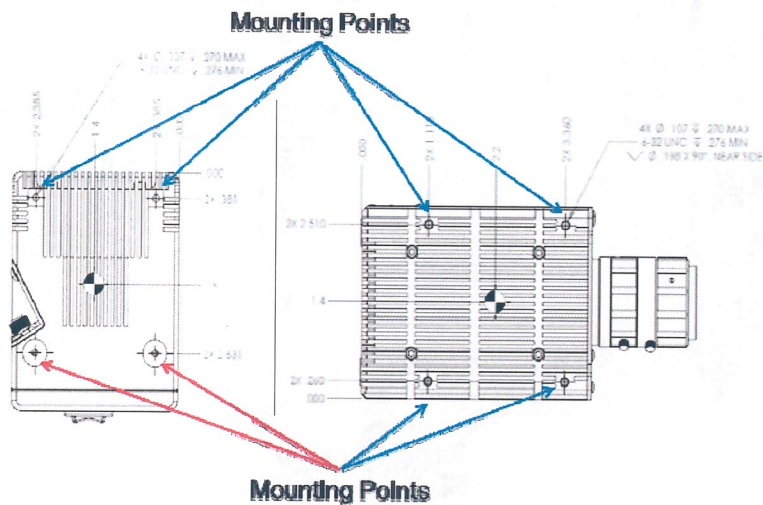

Figure 8: Mounting Points
6. If the onboard magnetometer is calibrated and used the navigation server will show a checkmark indicating it is ready. A figure 8 should be performed after takeoff to increase navigation data accuracy. If the onboard magnetometer is not used, perform navigation server alignment. The aircraft should take off and perform a figure 8 to obtain alignment. After a green check mark is displayed next to each item and the navigation server alignment is complete, the system is operational and ready for imaging. For UAV operation, this can be verified by a steady green status LED.